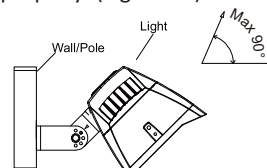

figure 10
Step 3: Connect the fixture to the bracket and tighten the screws; connect the wires properly .(Figure 10)
Notice: Adjustable angle refer to Figure 10.